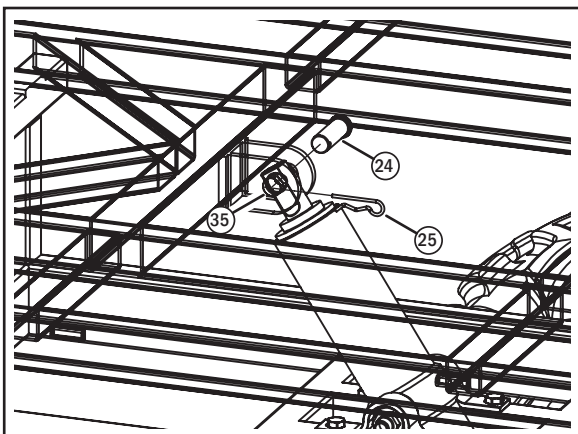

Fig. 11
and install the R-Pin (25) through the hole on the Linchpin, as shown in Fig. 11.